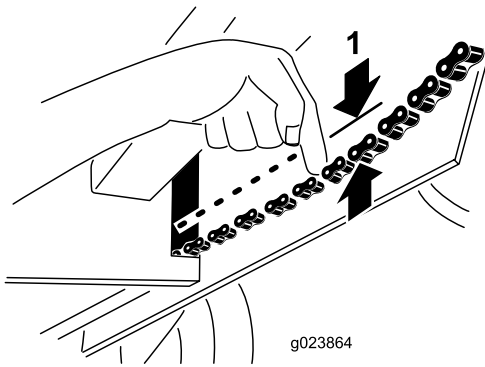

Figure 31
3. Pull down on each chain near the opening in the frame with 9 kg (20 pounds) of force (Figure 31). If a chain flexes more than 3 mm (1/8 inch), tighten it as follows: